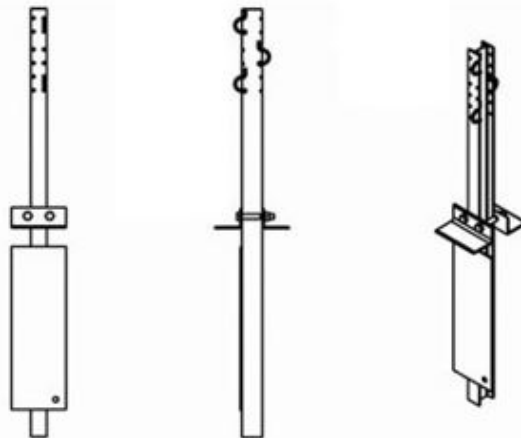

Figure 5
3. Place a bearing angle (PN-9021G) on each side of the post 4 at the ground line (See Figure 5).
4. Place two (2) hex bolts (PN-4779G) and flat washers (PN-3701G) through the two (2) bearing angles. Place a hex nut (PN-3711G) and flat washer (PN-3701G) on the bolt. Tighten the nuts to a snug position with a minimum of two (2) bolt threads protruding beyond the nut.